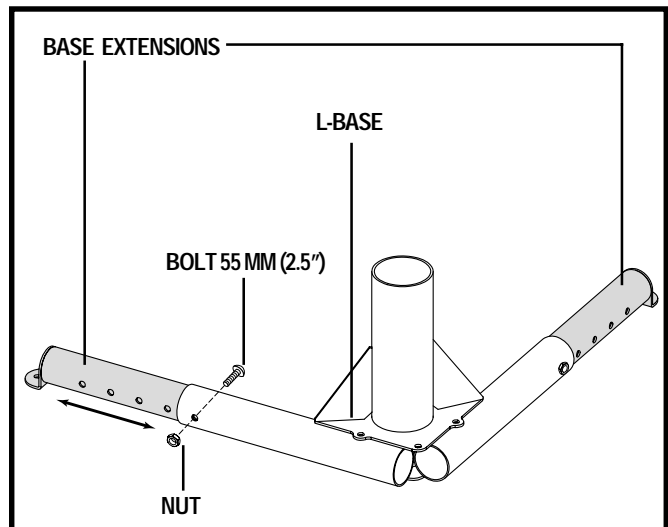

Figure 2. L-Base Extensions
1. Assemble the L-Base. **See figure 2.** For optimal use, insert the base extensions into the L-base at their farthest extension point and install the hardware (nuts and bolts). The base extensions can be adjusted to accommodate obstructions.